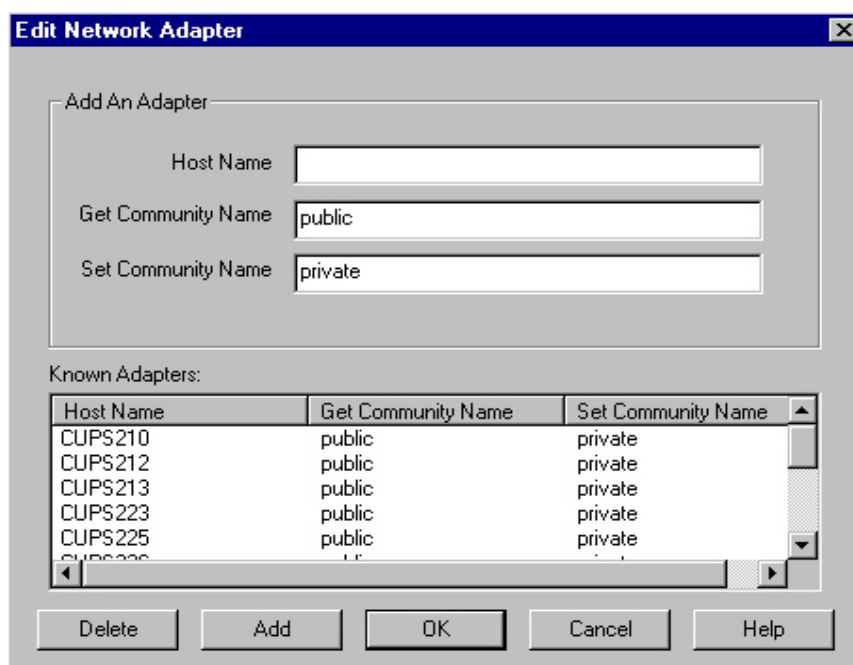

Figure 46. Edit Network Adapter Dialog Box
2. In the Host Name field of the Edit Network Adapter dialog box, enter the host name or IP address for the ConnectUPS SNMP network adapter or other network adapters that support the standard SNMP MIB (Figure 46).
2. In the Known Adapters list of the Edit Network Adapter dialog box, select a host name (Figure 46).